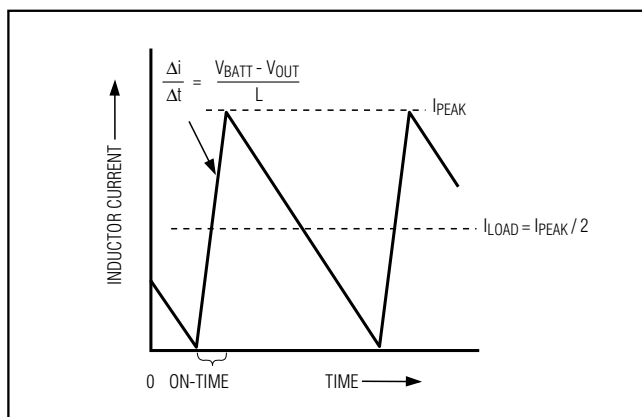

Figure 4. Pulse-Skipping/Discontinuous Crossover Point
where K is the on-time scale factor (Table 4). The load-current level at which PFM/PWM crossover occurs, $I_{\text{LOAD(SKIP)}}$, is equal to 1/2 the peak-to-peak ripple current, which is a function of the inductor value (Figure 4).
- 1) Determine the minimum (valley) inductor current ($I_{L(MIN)}$) under conditions when V_{IN} is small, V_{OUT} is large, and load current is maximum. The minimum inductor current is I_{LOAD} minus half the ripple current (Figure 4).